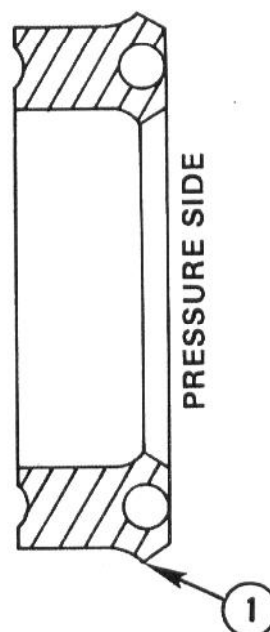

Fig. 70 — Lip Side of Typical Rod Seal
- a. Install rod seal, see Fig. 70, into I.D. of bearing with lip of seal away from dust seal ... install dust seal (wiper) into bearing with lip side of seal out-